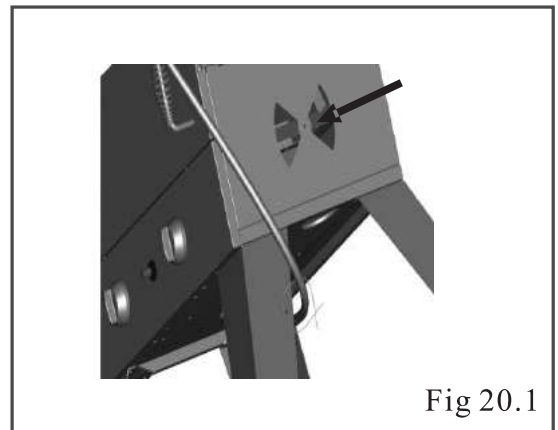

Fig 20.1
4. View the flames through the damper. Fig 20.1